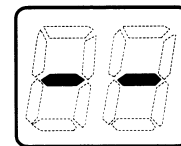

Fig. 1
**STEP 2:** Check that the display on all Four controllers is lit and displaying a temperature when switched on. If any ONE of the controllers displays two dashes (see Fig. 1) in the display repeat STEP 1.